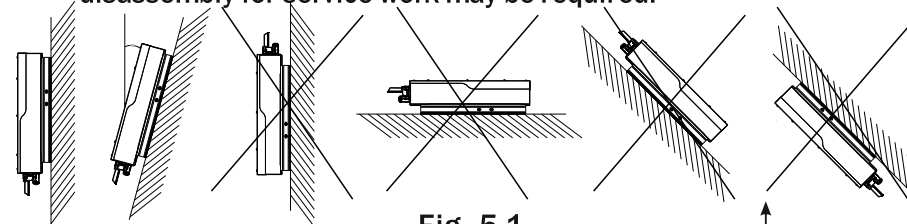

Fig. 5.1
2. Please install the equipment under the guidance of Figure 5.1. Vertical installation on floor level is recommended. Mount vertically or tilted backwards by max. 15°. Never install the Grid Tie Inverter tilted forwards, sideways, horizontally or upside down.